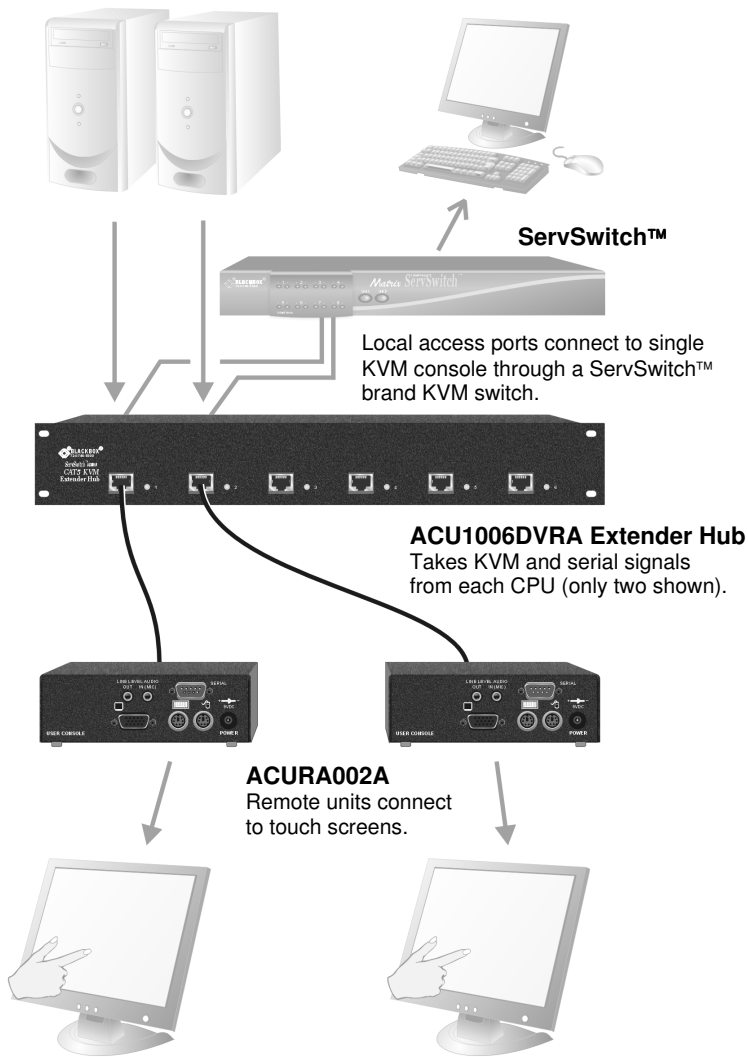

Figure 14
- Six remote serial touch screens with Local access through a KVM switch (Figure 14).